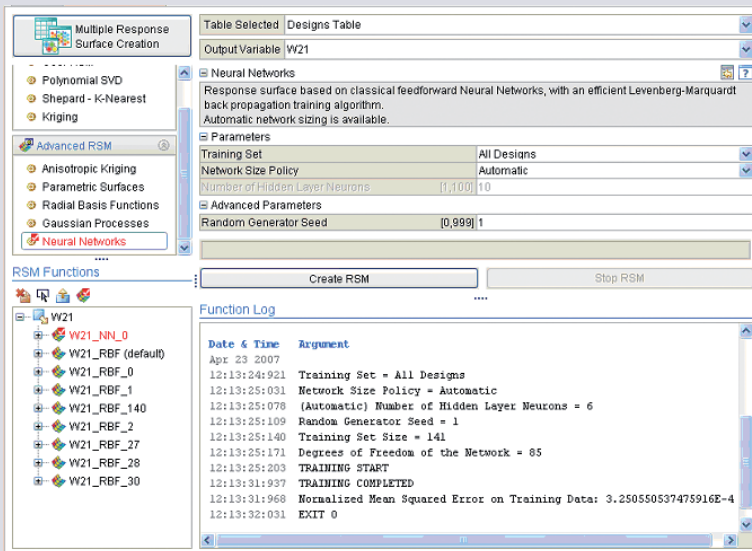

Figure 2: modeFRONTIER panel with which engineers can easily formulate, generate and save several kinds of meta-models.
3. At this point, the engineer can use the output responses obtained in the previous step for fitting the meta-model. The fitting of meta-models requires specifying the type and functional form of the meta-model and the easy-to-use interface to save, evaluate and compare different responses. modeFRONTIER assists engineers even at this important step by means of its Response Surface Methodologies tools (RSMs) [Fig. 2].